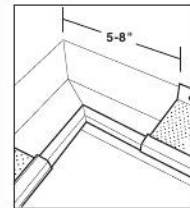

Fig. 4b
- To install an inside corner, stop the section of Gutter Warrior™ LT 5-8" from inside corners, leaving a space to apply the gutter sealant. (Fig. 4b)